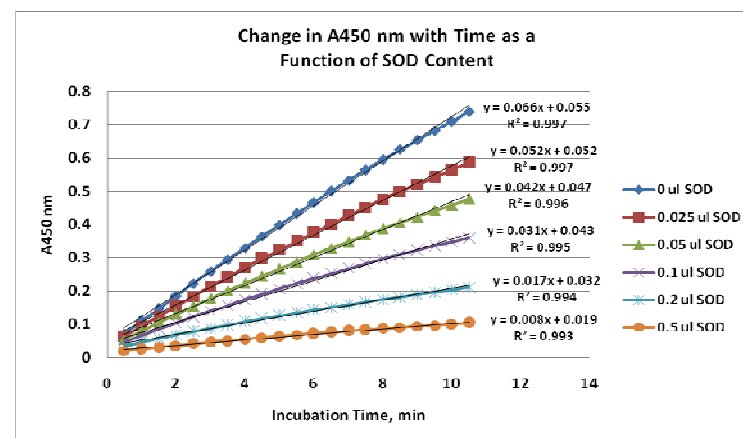

Figure 2: Change in absorbance at 450 nm with time for the SOD standard. A linear regression analysis is shown and used to determine the slopes of the curves.
1. Transfer the absorbance values at 450 nm (A450 nm) and the times points to an Excel or other suitable spread sheet program. Plot the A450 nm on the Y axis versus time in minutes on the X axis. Perform a linear regression on the curves, and display the linear equations. The change in absorbance at 450 nm as a function of time for the SOD standard is shown in **Figure 2**: